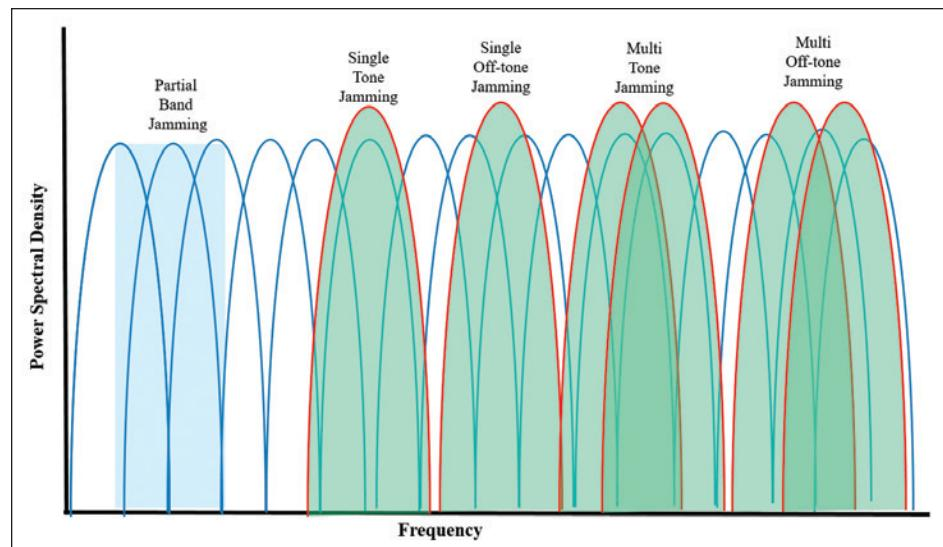

Figure 1: Different jamming attacks on LTE downlink [1]
Barrage jamming (BJ) is the most basic jamming technique. This is highly effective when there is no prior knowledge of the network. The entire spectrum of the target signal is jammed by transmitting band-limited noise to the system. This means the signal-to-noise ratio (SNR) decreases over the entire bandwidth. BJ is the most inefficient method of jamming. It requires a lot of power but is taken as a baseline for comparing the efficiency of other forms of jamming and their corresponding effectiveness. More information on BJ analysis can be found in [2]. Figure 1 on page 116 presents the spectrum for a BJ attack.
Partial band jamming (PBJ) is a technique in which a certain portion of the entire system bandwidth is targeted and jammed by transmitting additive white Gaussian noise (AWGN) over this specific bandwidth. When the power of the jamming signal is constant, the effectiveness of the jamming depends directly on the fraction of the jamming bandwidth and the signal bandwidth. More information on PBJ can be found in [1,2]. In Figure 1, the part of the spectrum affected by PBJ can be seen.
Figure 1 shows the effect of STJ on the spectrum. STJ can also be considered as a special case of PBJ. A more analytical investigation of the STJ can be found in [2]. In STJ, the knowledge of the target system's carrier frequency is required in order to jam the target signal.
Figure 1 shows an illustration of an MTJ attack on the spectrum. In MTJ, knowledge of the target system's carrier frequency is required.
(CSI). AOTJ demonstrates superior performance compared to BJ, STJ, and MTJ. An example of the two types of AOTJ can be seen in Figure 1.